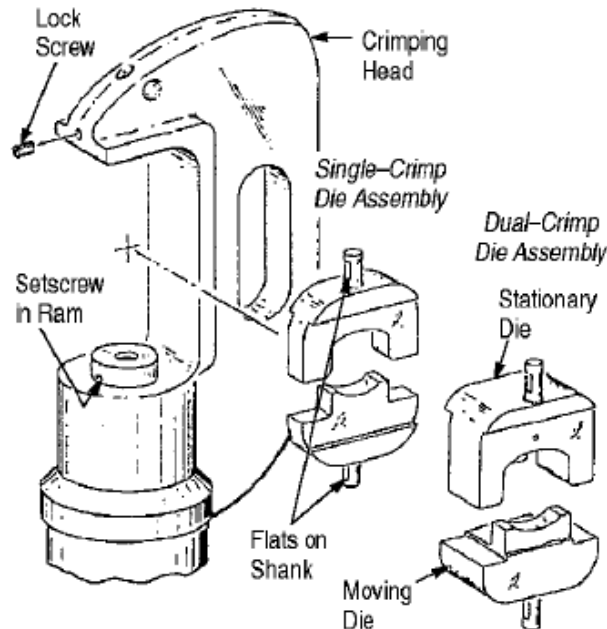

Figure 2
1. Loosen the lock screw in the top of the crimping head (see Figure 2 for location).
2. Insert the shank of the stationary die into the top section of the crimping head and secure by tightening the lock screw (see Figure 2).
- Loosen setscrew on ram and insert shank of moving die into the ram well. Ensure that moving die is correctly oriented with regard to stationary die, and tighten setscrew on ram (see Figure 2).